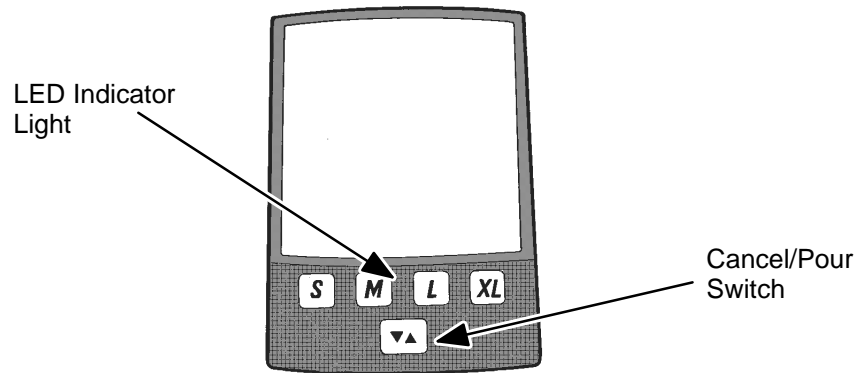

Figure 1
- D. Press valve cover CANCEL/POUR switch (see Figure 1) momentarily to fill separator with syrup.